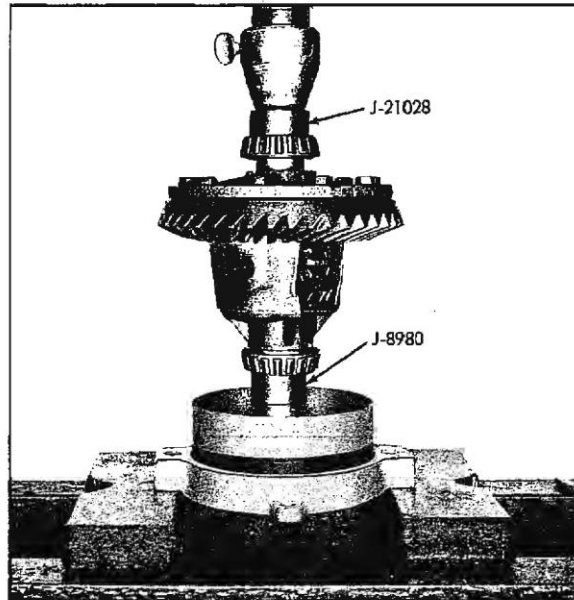

Fig. 4-29 Installing Left Differential Side Bearing
10. Reverse differential case, support previously installed bearing with J-8980, and press on other side bearing, using J-21028 (Fig. 4-29).